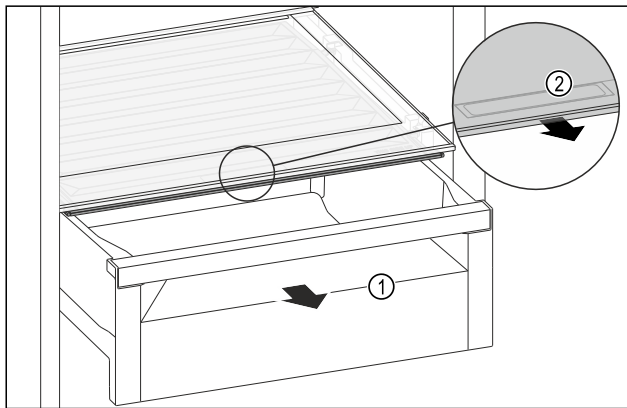

Fig. 175
- ▶ Pull out the drawer Fig. 175 (1).
- ▶ Grasp the recessed grip Fig. 175 (2) on the compartment lid and pull the compartment lid forwards at the same time.